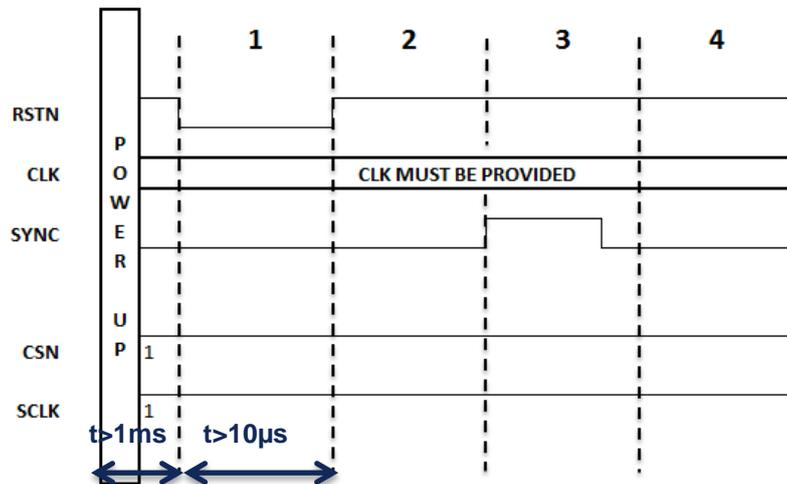

Figure 12: Start-up sequence when the SPI interface is not used
3. A pulse is applied onto the SYNCTRIG input to reset the internal clocks (SYNC signal in Figure 12) ;